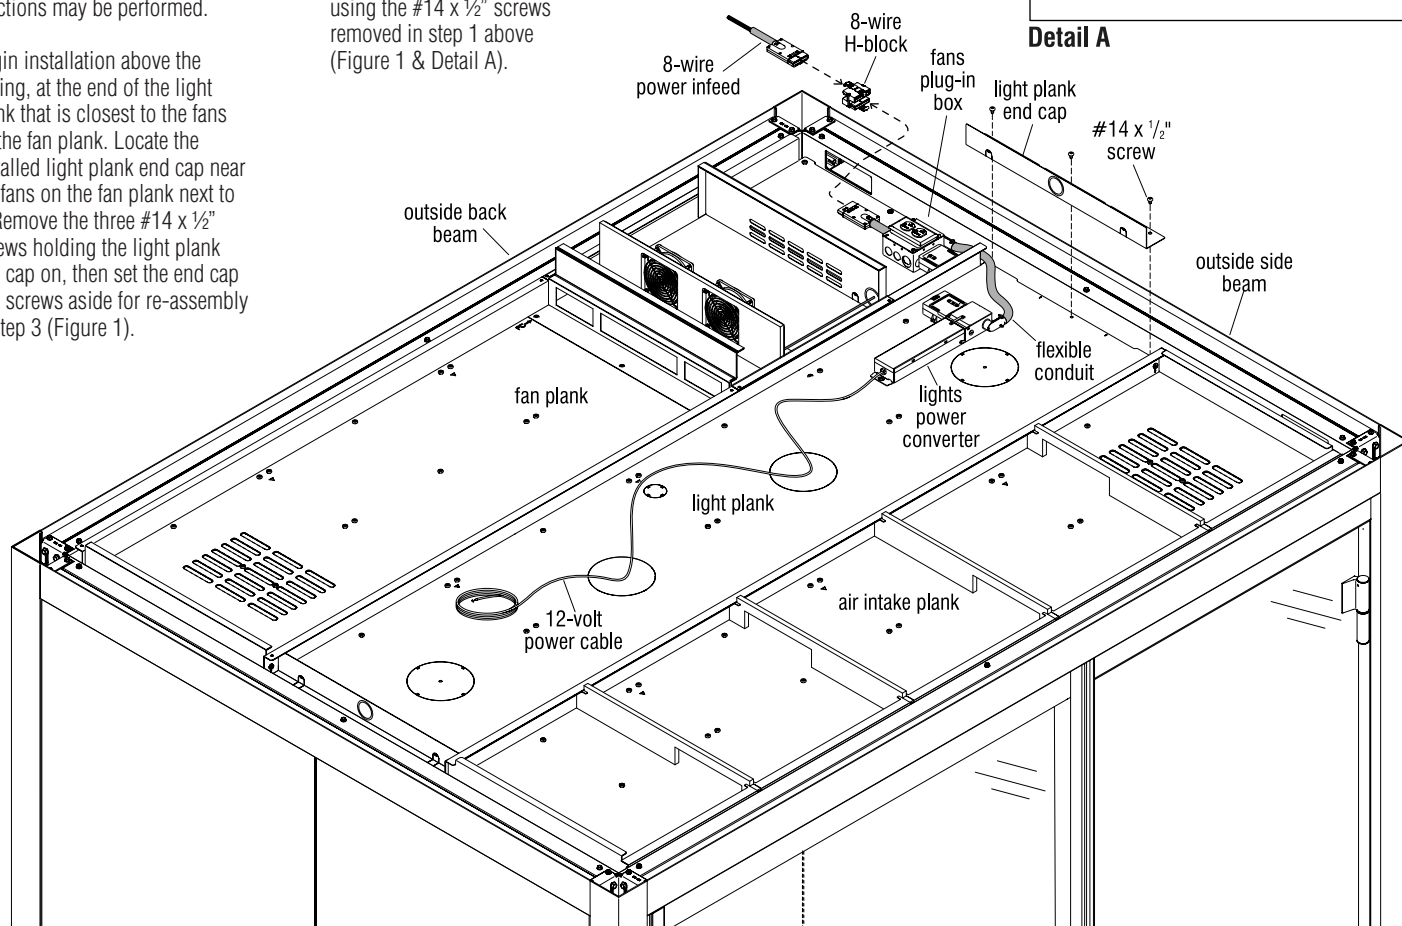

Figure 1
1. Begin installation above the ceiling, at the end of the light plank that is closest to the fans on the fan plank. Locate the installed light plank end cap near the fans on the fan plank next to it. Remove the three #14 x 1/2" screws holding the light plank end cap on, then set the end cap and screws aside for re-assembly in step 3 (Figure 1).
2. Locate the electrical control harness assembly and position it as illustrated with the lights power converter section onto the light plank, then bend the conduit with the fan plug-in box over to the fan plank side and in position as illustrated (Figure 1).
3. Take the light plank end cap in hand and orient it as it was removed in step 1, over the location where the conduit from the lights power converter wraps around from the light plank to the fan plank. Identify the conduit knock-out that the conduit can pass through when the light plank end cap is re-installed. Use a side cutter and remove the appropriate knock-out then re-install the end cap to capture the conduit, using the #14 x 1/2" screws removed in step 1 above (Figure 1 & Detail A).
4. With the electrical control harness assembly in position on top of the light plank and fan plank, locate the 12-volt power cable from the end of the lights power converter and route the wires toward the future light locations and coil the remaining cable at the end of the light plank (Figure 1).
5. Plug the modular connector end of the fans plug-in box into an 8-wire H-block, then plug a 8-wire power infeed connector into the H-block and set into position on top of the fan ceiling plank for future connection to the building power source by the electrician following guidelines at the end of this section (Figure 1).